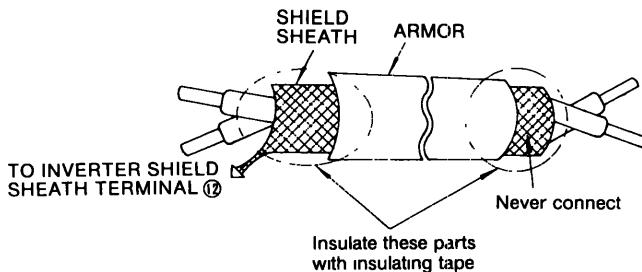

Fig. 3 Shielded Lead Termination
(2) Control circuit leads ⑨ ⑩ ⑮ ⑯ ⑰ (contact output) must be separated from leads ① to ⑧, ⑪ to ⑯ and ⑳ to ⑳.
Use the twisted shielded or twisted-pair shielded lead for the control circuit line and connect the shield sheath to the inverter terminal ⑫. See Fig. 3.